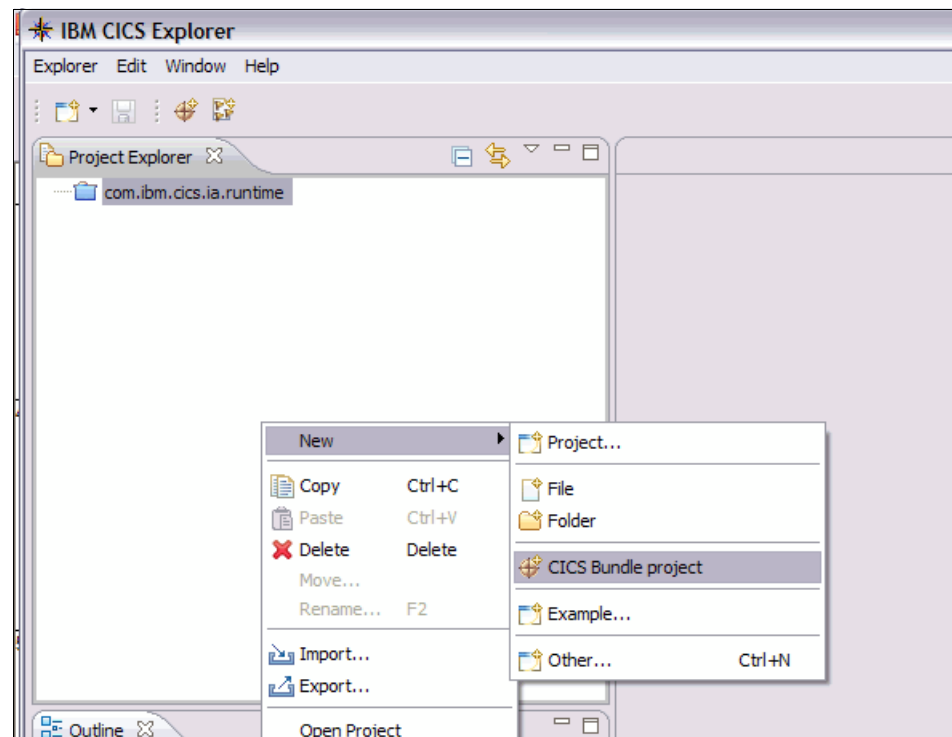

Figure 5-1 Creating CICS bundle project
1. Open IBM CICS Explorer, and select the resource perspective. Right-click in the Project Explorer view, click **New**, and click **CICS Bundle project**, as shown in Figure 5-1.